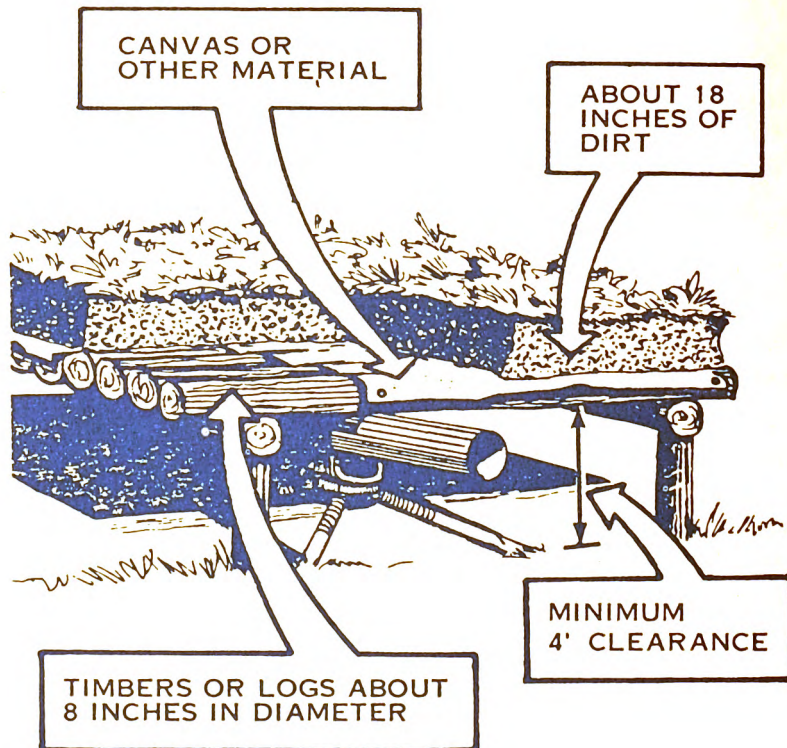

Figure 1.
c. If the position is covered (figure 1), camouflage it in the same manner as the parapet. If it's not covered, you must camouflage the position using camouflage nets or available brush, branches, etc., so that it's not visible from above.